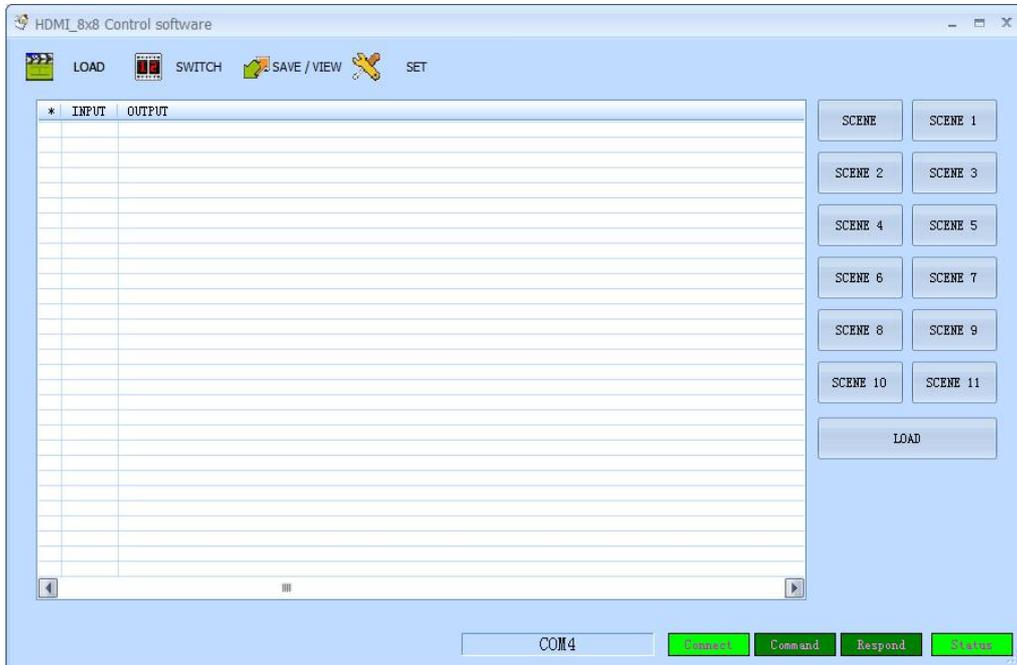

Figure 6.3-1
3. Double click Client.exe icon to run it. Figure 6.3-1 pops up.